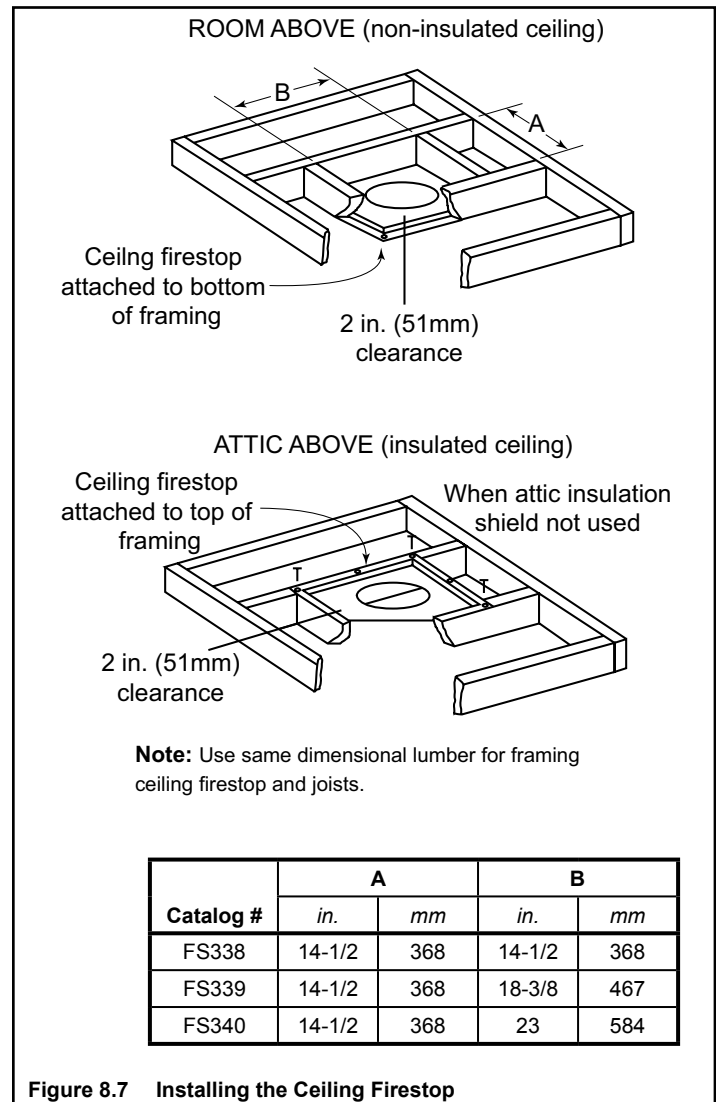

Figure 8.7 Installing the Ceiling Firestop
- Mark and cut an opening in ceiling as shown in Figure 8.7.
- Mark and cut an opening in the ceiling for the ceiling firestop being used. See Figure 8.7.